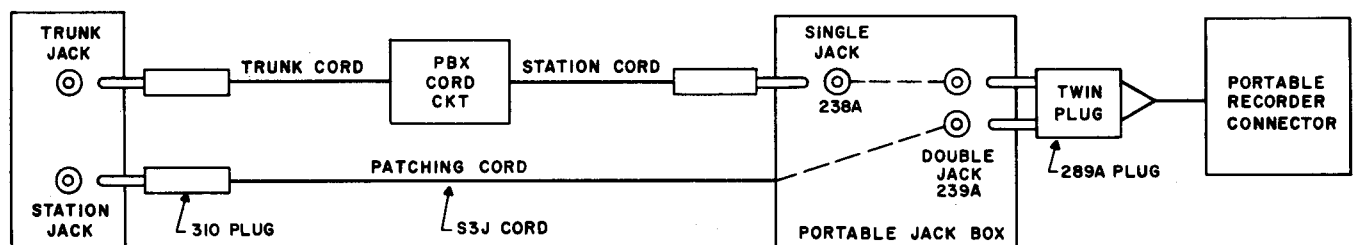

Fig. 4—Block Diagram Patching Portable Recorder Connector to PBX through Portable Jack Box
- Upon being informed of the need for recording, the PBX attendant starts the recorder and patches the recorder connector into the circuit through the portable jack box as shown in Fig. 4.